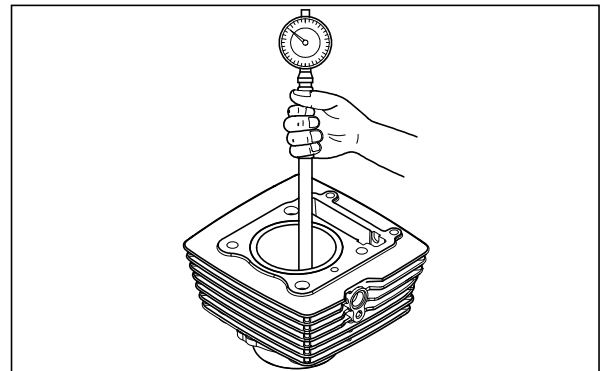
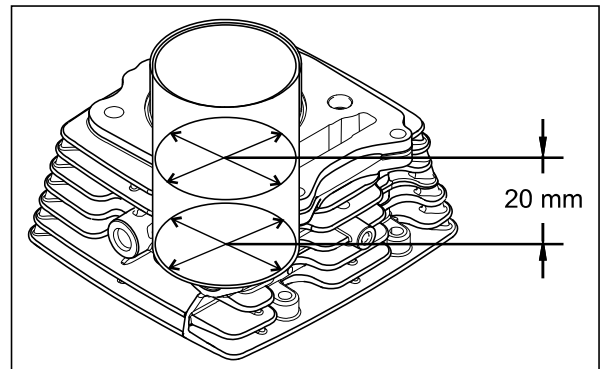

Fig. 3.89
Fig. 3.90
- Measure the cylinder block ID (bore) using the bore gauge. Cylinder bore should be checked in two axis with reference to the cylinder axis at three locations as shown in the figure. (Fig. 3.89 & Fig. 3.90)